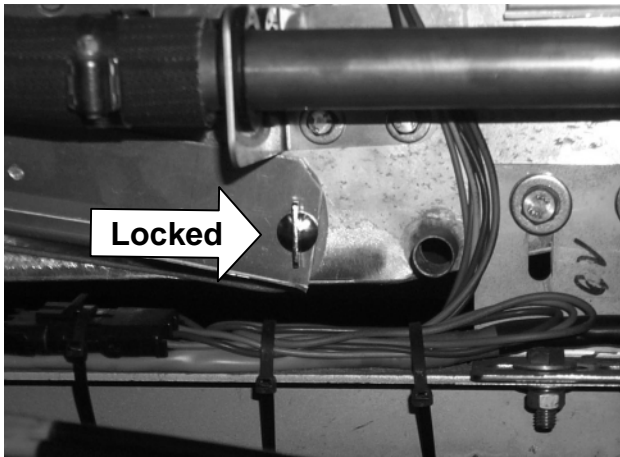

Figure 3: Front unit air filter assembly locked
- 3) Unlock the winged studs left and right (Figures 3 and 4).